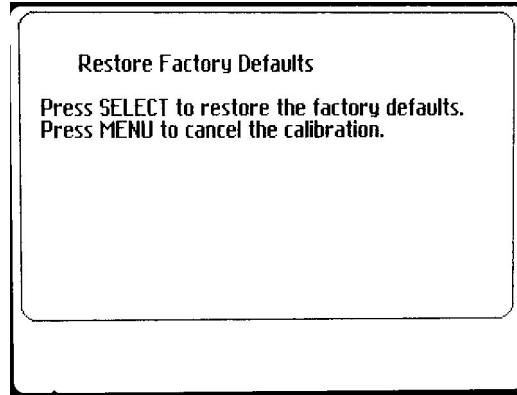

Figure 26 - Restore Factory Defaults (D.O.)
- The PT2 will be on the RESTORE FACTORY DEFAULTS screen (Figure 26). Press SELECT again to erase all previous field calibration data from the sensor. The PT2 will return to the CHANNEL CAL menu screen.